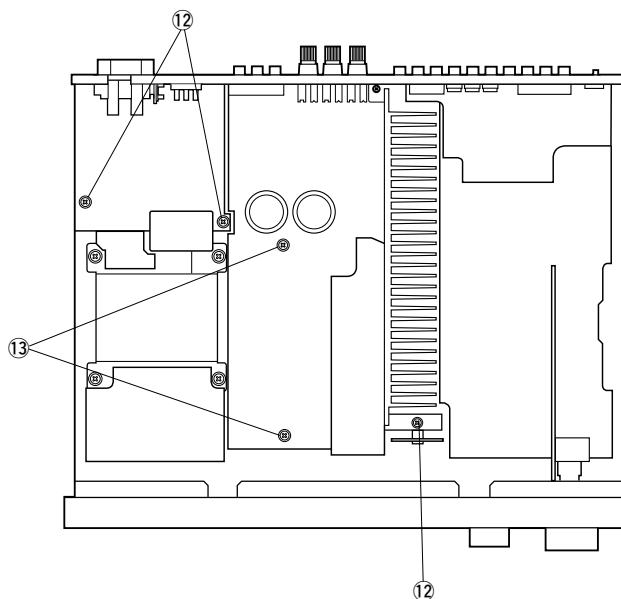

Fig. 6
- c. Remove 5 screws (⑫, ⑬) indicated in Fig. 6.